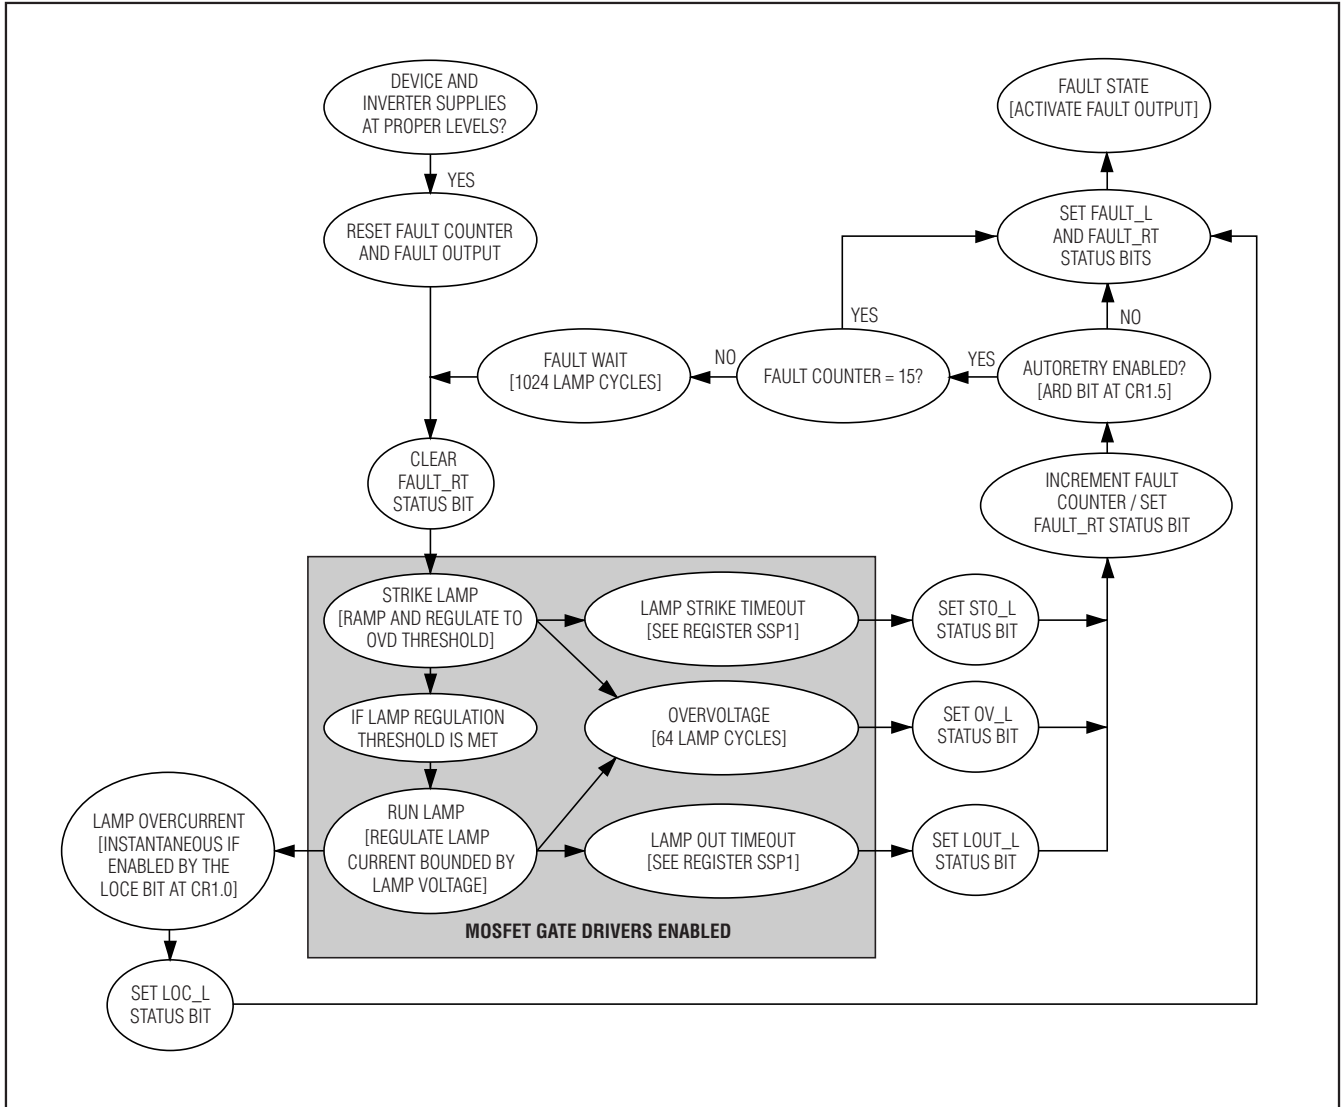

Figure 8. Fault-Handling Flowchart
Figure 8 shows a flowchart of how the DS3881 controls and monitors each lamp. The steps are as follows:
**Note 2:** See Figure 8 for more details on how the status bits are set.